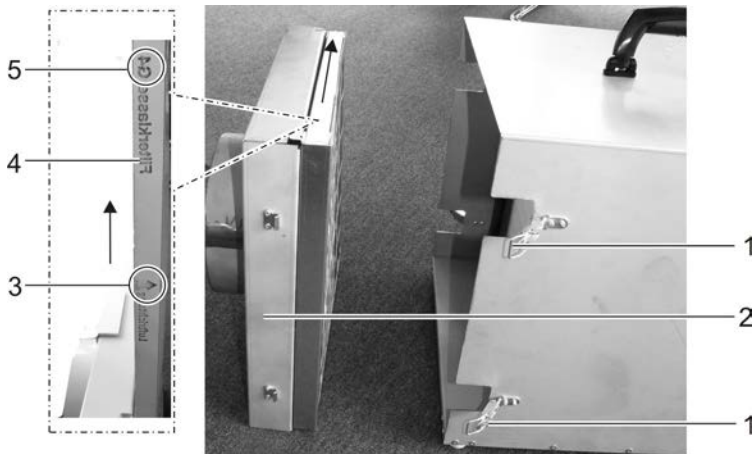

Fig. 3: Changing The Pre-Filter
3. Open the snap locks (Fig. 3, Pos. 1).
4. Pull the pre-filter out of the device (Fig. 3, Pos. 4).
5. Thoroughly clean the rear side of the casing with a mild detergent and give time to dry (Fig. 3, Pos. 2),
6. Visual Inspection: Check the pre-filter for pollution. If necessary use a new filter of the same class (Fig. 3, Pos. 5) and push in rear of the casing in the direction of the air as indicated (Fig. 3, Pos. 3) be cautious when doing so.
10. Mount the rear casing with the pre-filter (Fig. 3, Pos. 2) with the snap locks (Fig. 3, Pos. 1).